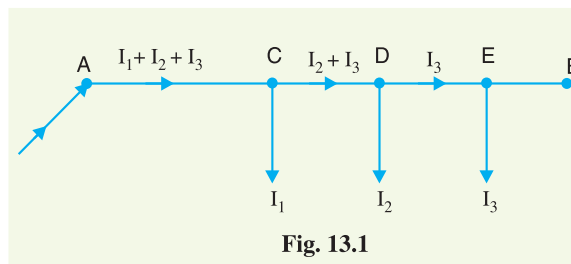

Fig. 13.1
- (i) **Distributor fed at one end.** In this type of feeding, the distributor is connected to the supply at one end and loads are taken at different points along the length of the distributor. Fig. 13.1 shows the single line diagram of a d.c. distributor AB fed at the end A (also known as *singly fed distributor*) and loads I_1 , I_2 and I_3 tapped off at points C , D and E respectively.
(b) The voltage across the loads away from the feeding point goes on decreasing. Thus in Fig. 13.1, the minimum voltage occurs at the load point E .